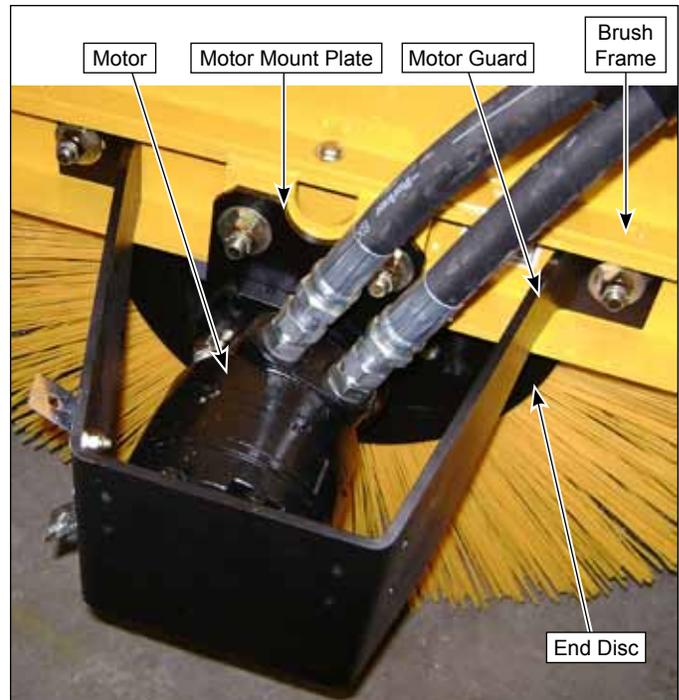

Figure 1
2. Remove (2) 1/2-13 x 1-1/2" capscrews, flat washers, lock nuts and motor guard from brush frame. Retain guard and mounting hardware. See Figure 1.
3. Remove (2) 1/2-13 x 1-1/2" capscrews, flat washers, lock nuts and motor mount plate from brush frame. Slide motor out of mating splined hub. Let motor hang on hoses. Retain mounting hardware. See Figure 1.